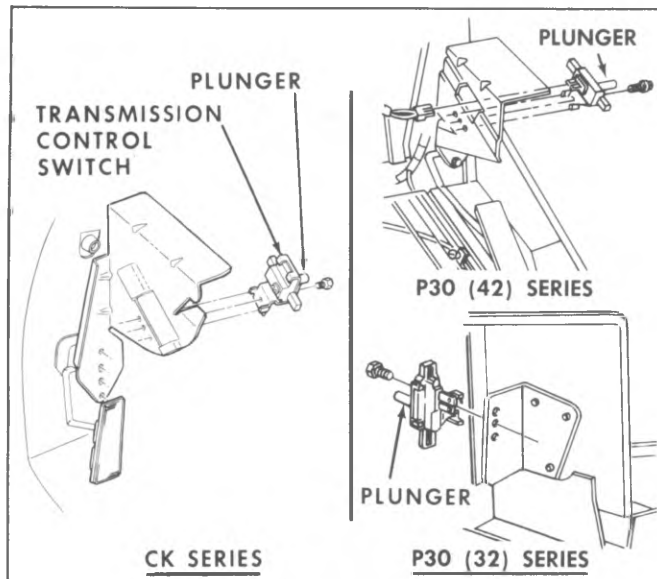

Fig. 7A-34--Detent Downshift Switch
1. Install switch as shown in Figure 7A-34.